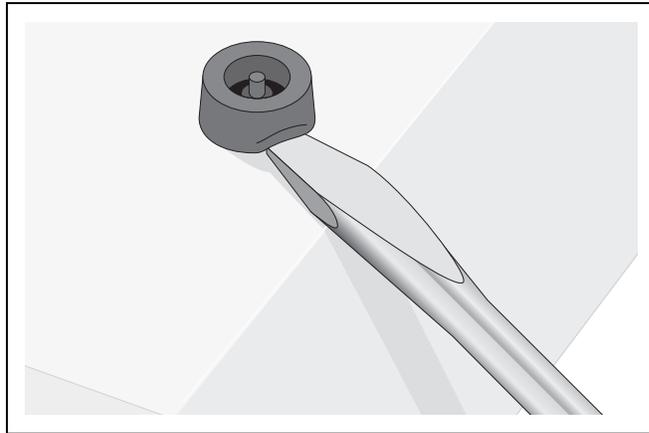

Figure 11. Removing Feet from Switch
1. If attached, remove the rubber feet using a flat-head screwdriver as shown in Figure 11.